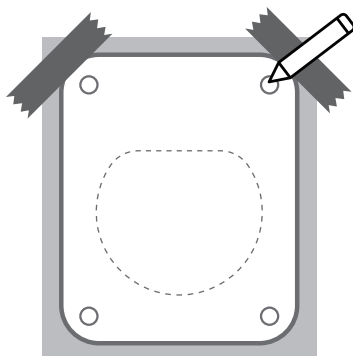

Fig. 5.6.1
2. Place the installation template on the wall and mark the mounting hole. (See Fig. 5.6.1)